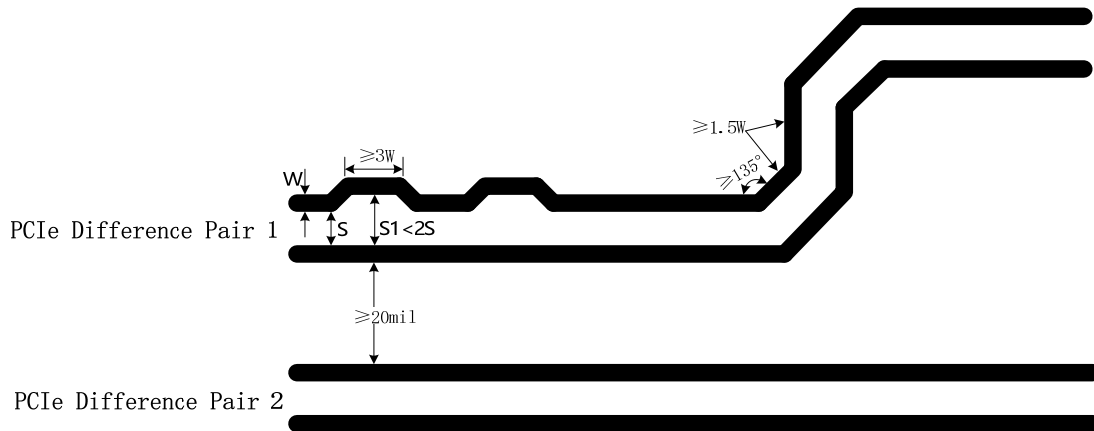

Figure 3-12 Requirement of PCIe Line
- Try to avoid bended lines and avoid introducing common-mode noise in the system, which will influence the signal integrity and EMI of difference pair. As shown in Figure 3-12, the bending angle of all lines should be equal or greater than  $135^\circ$ , the spacing between difference pair lines should be larger than 20mil, and the line caused by bending should be greater than 1.5 times line width at least. When a serpentine line is used for length match with another line, the bended length of each segment shall be at least 3 times the line width ( $\geq 3W$ ). The largest spacing between the bended part of the serpentine line and another one of the differential lines must be less than 2 times the spacing of normal differential lines ( $S1 < 2S$ );